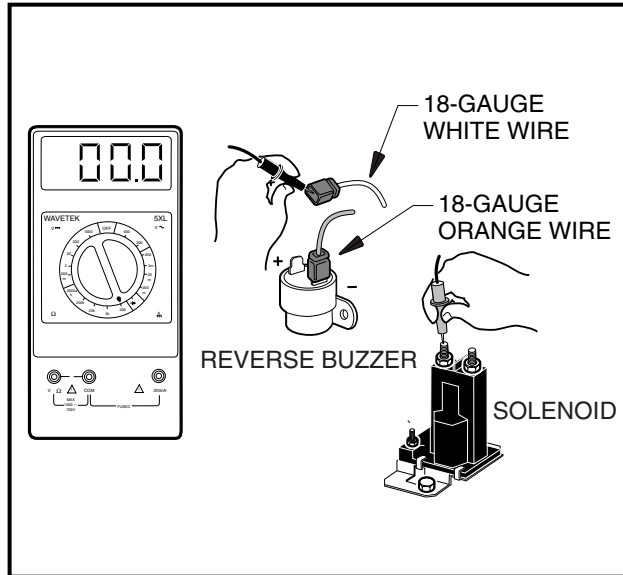

Figure 11-8 Reverse Buzzer Test – White Wire
3. Disconnect the 18-gauge white wire at the reverse buzzer. Place the red (+) probe of a multimeter (set to 200  $\Omega$ ) on the large post of the solenoid (with the 6-gauge and the 18-gauge white wires attached), and place the black (-) probe on the terminal end of the 18-gauge white wire at the reverse buzzer. The reading should indicate continuity. If it is not, replace the 18-gauge white wire (**Figure 11-8, Page 11-11**).